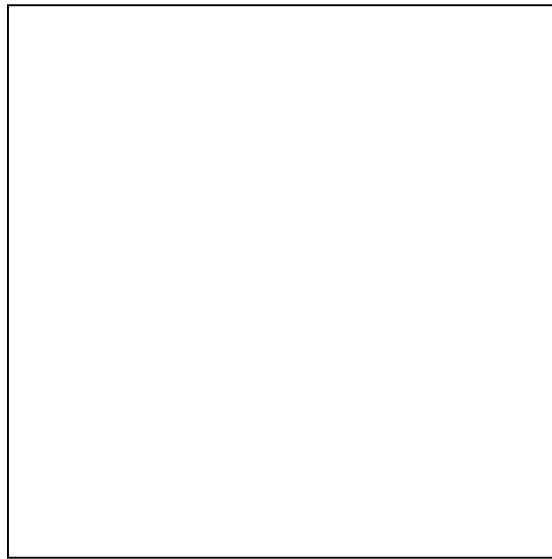

Fig. 12
33. Using a compass and a ruler, construct an octagon within the square shown in Fig.12.